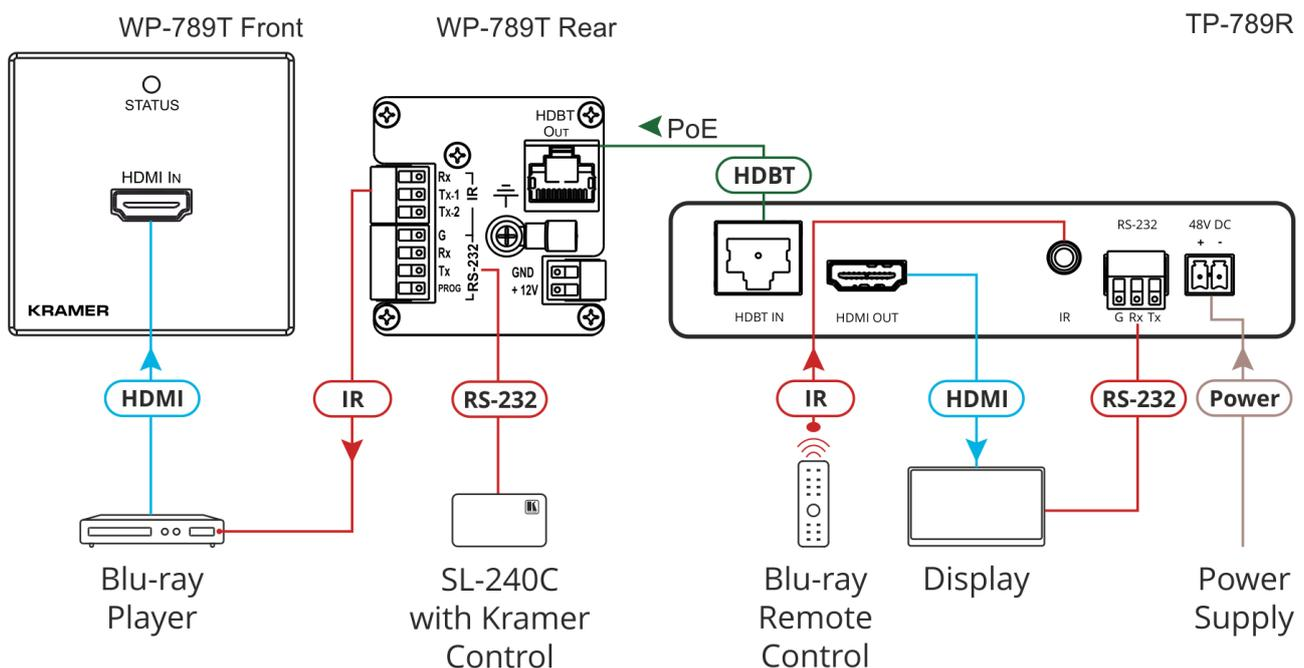

Figure 4: Connecting WP-789T to TP-789R
To connect WP-789T, TP-789R, TP-789Rxr as illustrated in the example in \(Figure 4\):
3. Connect the HDMI OUT Connector (22) on the TP-789R/TP-789Rxr rear panel to the HDMI acceptor (for example, a display).
4. Connect RS-232 Terminal Block Connector (25) on the TP-789R/TP-789Rxr rear panel to the HDMI acceptor.
5. Connect an IR sensor cable to the IR 3.5mm Mini Jack Connector (24) on the TP-789R/TP-789Rxr rear panel.
6. Connect an RS-232 controller (for example, SL-240C) to the RS-232 Terminal Block Connector (3) on the WP-789T rear panel.
7. Connect the HDBT OUT RJ-45 Connector (6) on the WP-789T rear panel to the HDBT IN RJ-45 Connector (21) on the TP-789R/TP-789Rxr rear panel.
8. Connect the power adapter to the 48V DC Power Terminal Block (26) on TP-789R/TP-789Rxr rear panel (not shown in Figure 4) and to the mains electricity.
4. Connect the HDMI OUT Connector (8) on the **WP-789R** front panel to the HDMI sink (for example, a display).
5. Connect the IR Terminal Block Connector (9) on the **WP-789R** front panel to the HDMI sink via an IR emitter cable.
6. Connect the RS-232 Terminal Block Connector (11) on the **WP-789R** rear panel to the HDMI sink.
7. Connect the HDBT IN RJ-45 Connector (14) on the **WP-789R** rear panel to the HDBT OUT RJ-45 Connector on **TP-780T**.
8. Connect the power adapter to **TP-780T** rear panel (not shown in Figure 4) and to the mains electricity.